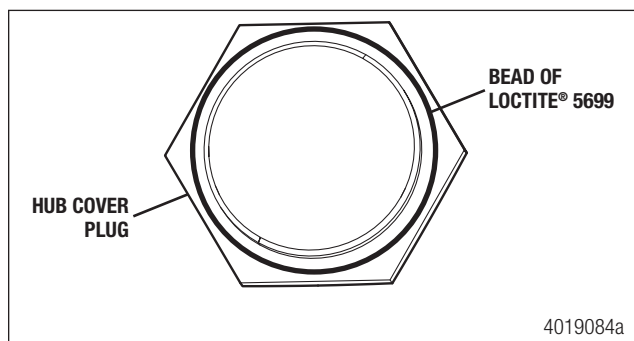

Figure 14.10
8. Apply a continuous bead of Loctite® 5699 gasket material to the hub cover plug prior to installation. Figure 14.10.